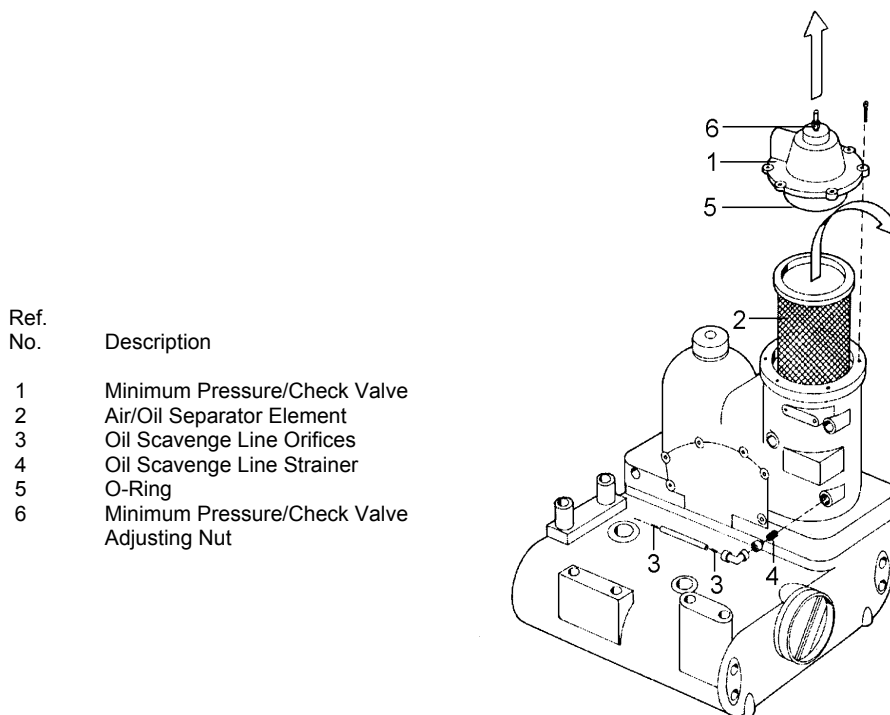

Figure 5-6 – OIL SEPARATOR
COMPRESSOR AIR/OIL SEPARATOR (Figure 5-6, page 34) - Located in a separate housing, consists of a renewable cartridge-type separator element and provides the final removal of oil from the air stream.
4. Remove the minimum pressure/check valve, see Item 1, Figure 5-6, page 34 (air/oil separator housing) cover.
5. Lift out the air/oil separator element. See Item 2, Figure 5-6, page 34.
8. Clean the orifice, Item 3, Figure 5-6, page 34, in the oil return line, the strainer, Item 4, Figure 5-6, page 34, in the oil return line, and if necessary, the air/oil separator housing.
10. Replace the O-Ring, Item 5, Figure 5-6, page 34, between the minimum pressure/check valve and the air/oil separator housing.
11. Replace the sealing kit in the minimum pressure/check valve. After the assembling of the valve, leave about .08 inch gap between the nut, Item 6, Figure 5-6, page 34, and the cover of the valve. See "Changing Minimum Pressure/Check Valve Seals," Section 4, page 20.